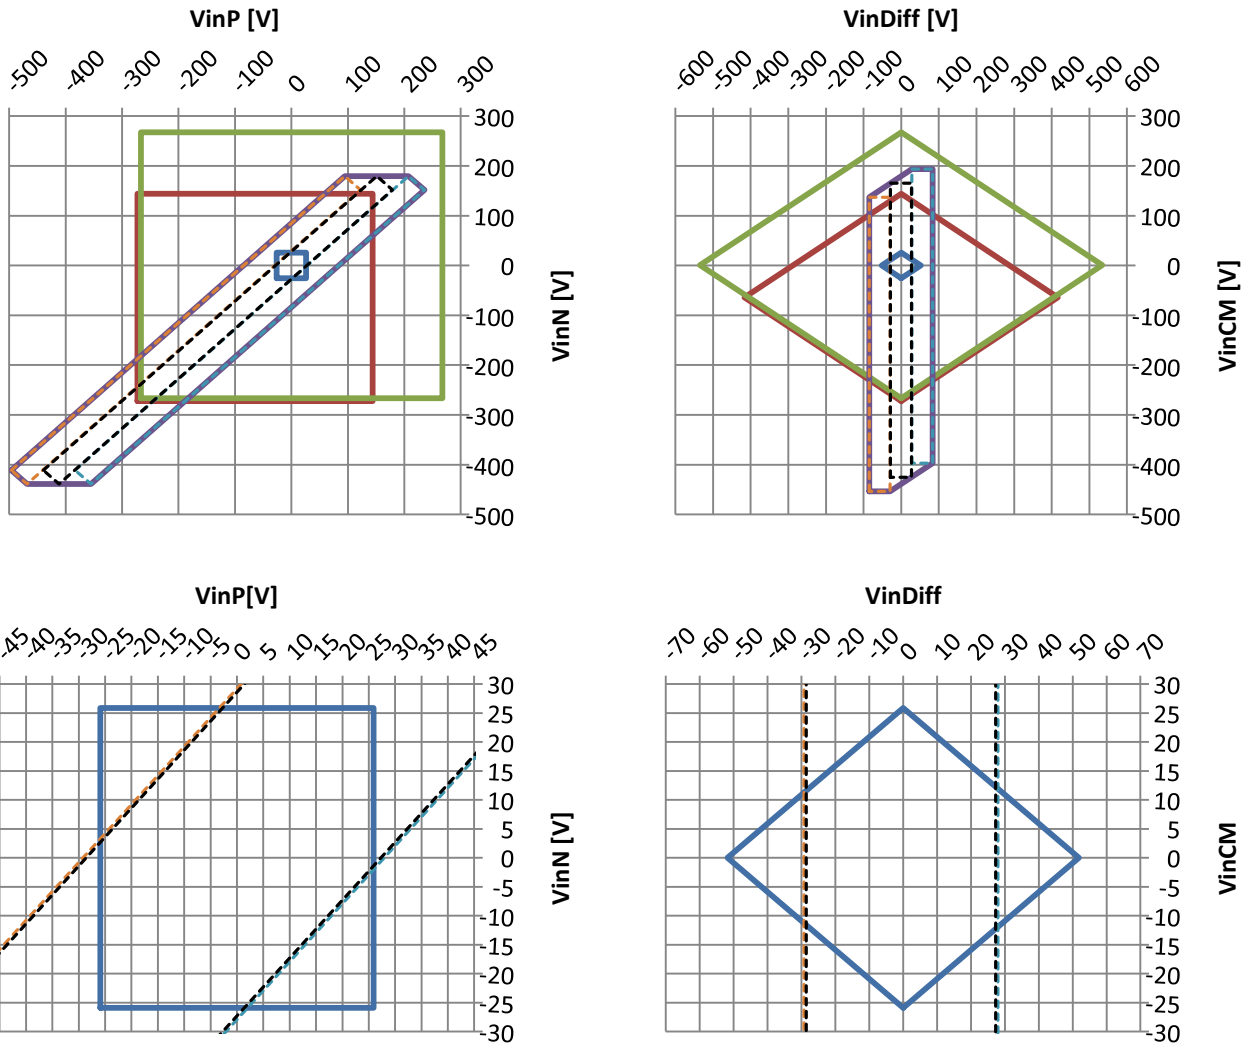
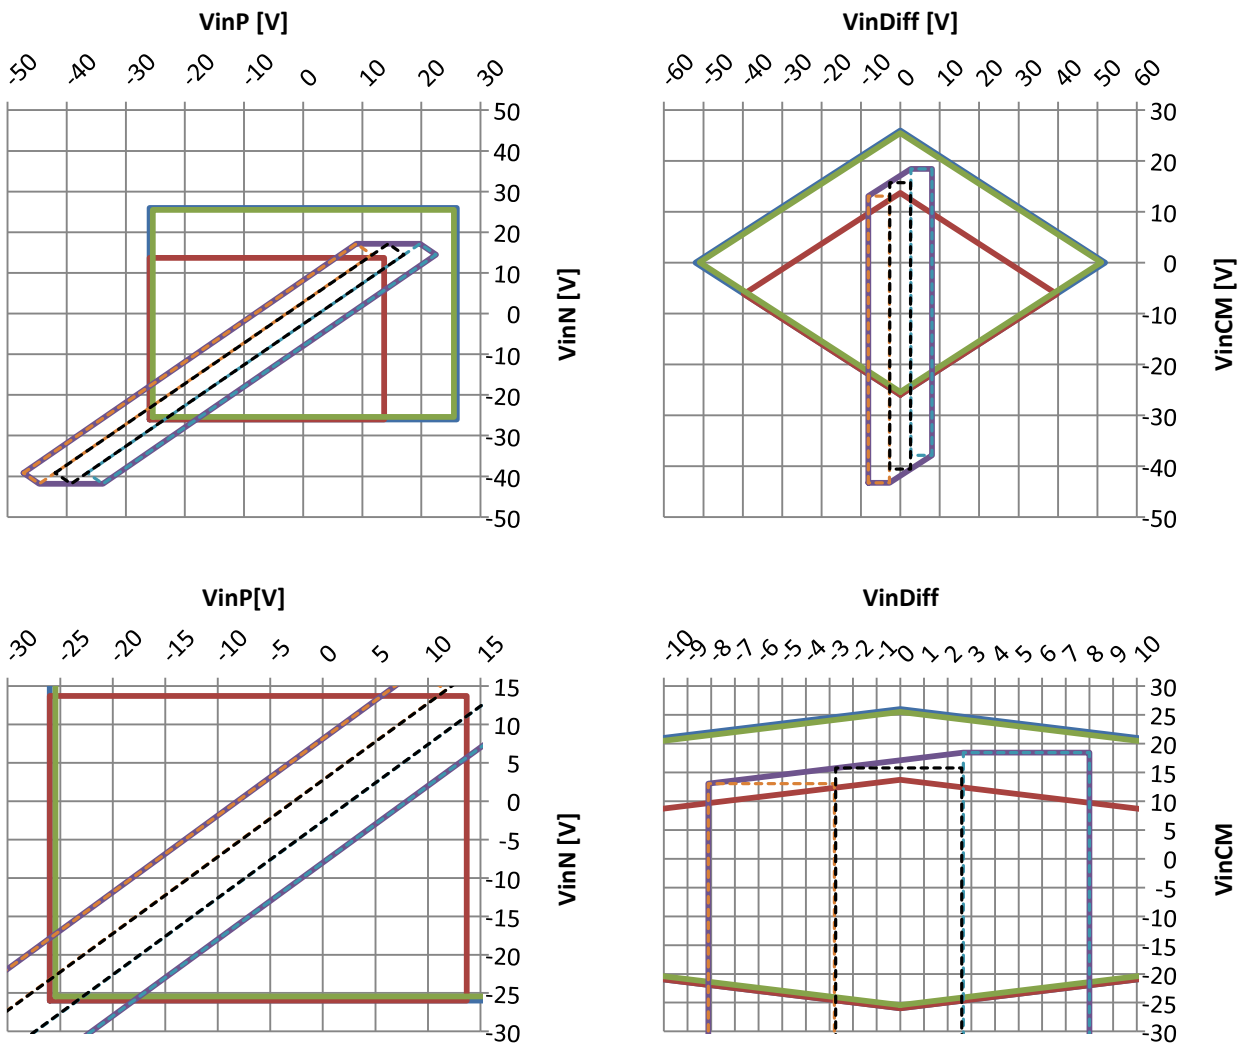

Figure 11. Scope input signal range:
Figure 12. Scope input signal range:
Equations (2), (7), (8), (12) and (19) show signal range boundaries for keeping ICs in the input/output voltage ranges. Combining these with the gain equations, the overall linear scope operation range is shown Figure 11 and Figure 12. Each equation is represented by a closed polygon. Each figure is shown at the full range and at a detailed range. Separate figures are shown for Low Gain and for High Gain. The right hand diagrams use $V_{in\ diff}$ and $V_{in\ CM}$ coordinates while left hand ones use V_{inP} and V_{inN} coordinates.
For Low Gain (Figure 11), the simple condition to stay in the linear range is to keep both positive and negative inputs V_{inP}, V_{inN} in the $\pm 26V$ range (as shown by equation (2)).
For High Gain (Figure 12), by combining equations (7) and (5), both positive and negative inputs in must stay in the range: